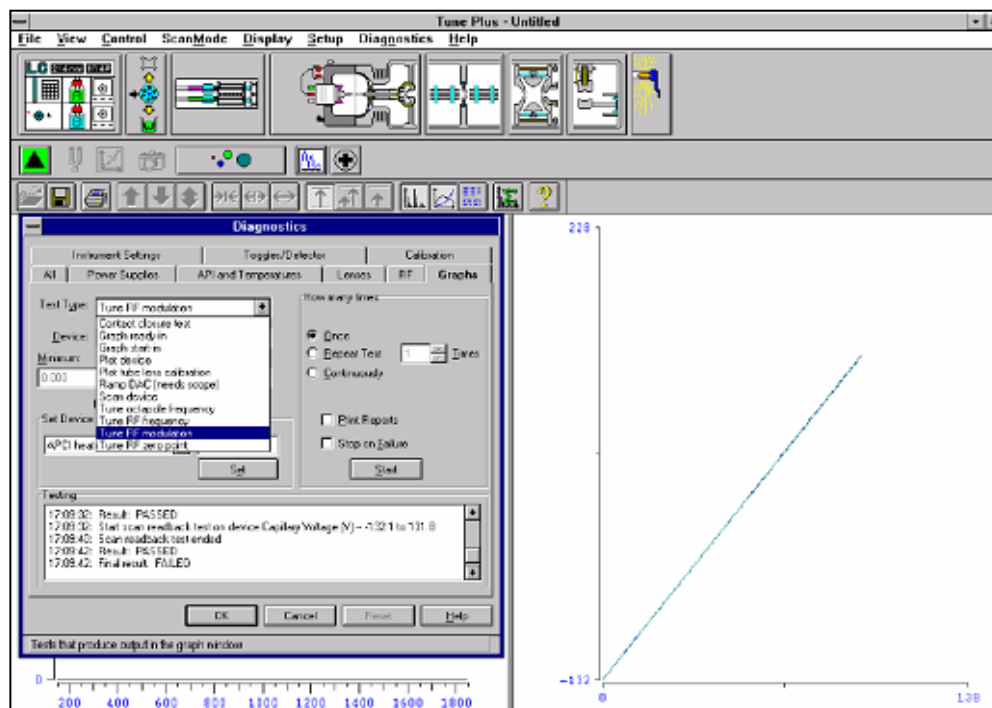

Figure 9. Diagnostics dialog box and Graph view.
8.2.2.5.5. Reposition the Diagnostics dialog box such that it does not block the Graph view as shown in Figure 9.